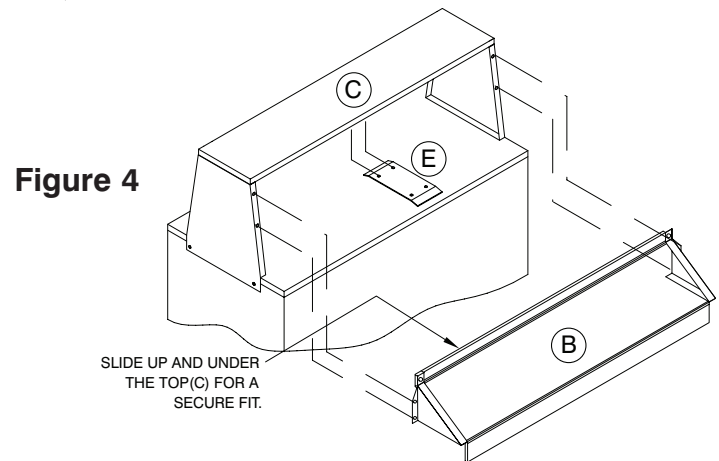

Figure 4
STEP 4: Slide the assembled Plexiglass sections under the top (C) & secure the Angle Brackets to the uprights using insert screws (F). **Figure 4.**
STEP 5: Place bracket (E) onto the studs on the underside of the top (C) and secure the Plexiglass in place using Dome Cap Screws (G). This will help support the Plexiglass. The number of these brackets will vary on the size of the unit.